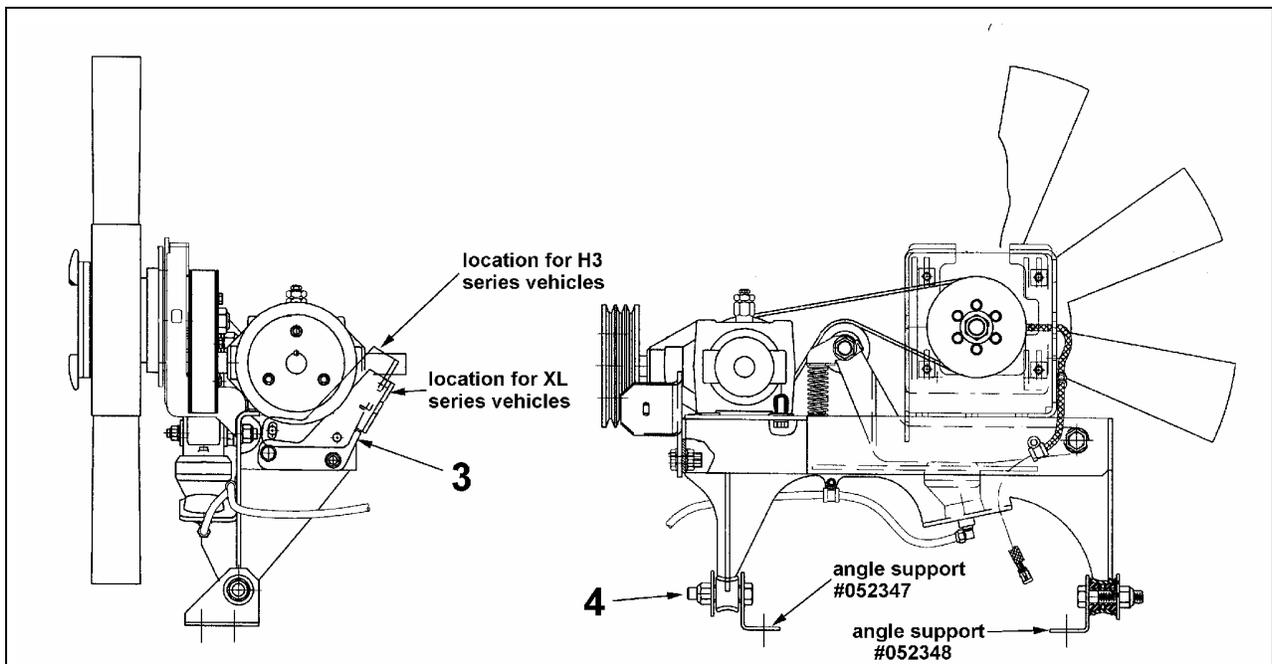

FIGURE 2 : FAN DRIVE ASSEMBLY
5. Remove the tensioner arm (figure 2 item 3). Take note of its position.
6. Proceeding with one side at a time, unscrew the pivot bolt (4) at the base of the fan drive assembly (figure 2).
7. Remove the actual angle support and replace by a new one (figure 2).
8. Reinstall and tighten the pivot bolt (4).
10. Install the new tensioner arm (3) to its proper position according to the type of vehicle (figure 2).